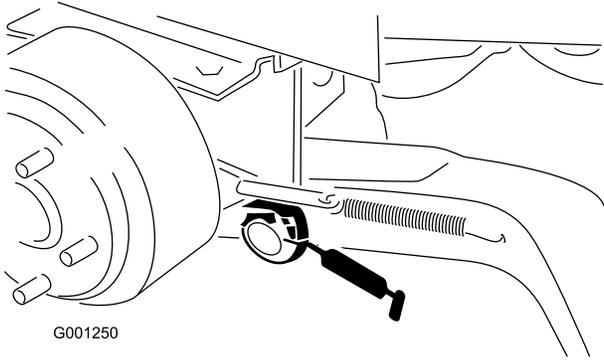

Figure 37
- Lift arm pivot bushings (Figure 37)